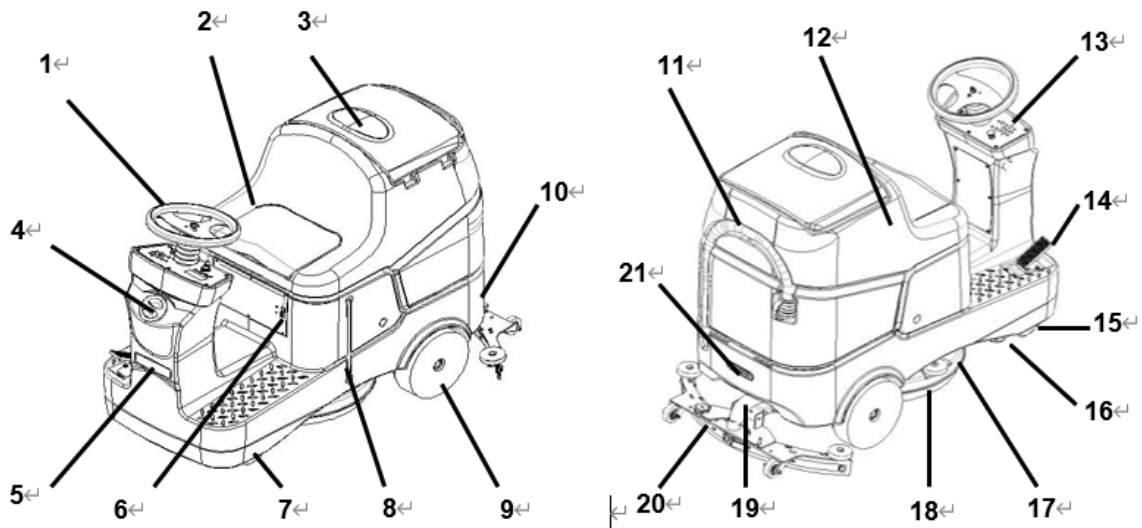

Figure 1
## MACHINE STRUCTURE (as shown in Figure 1)
1. Open the recovery tank cover (3 on figure 1) and check the recovery tank (4 on figure 1) is empty, otherwise, empty it with drain hose (19 on figure 1).
4. Tighten the knob on the squeegee assembly and insert the vacuum hose (17 of figure 1) into the connector of the squeegee assembly.
1. Open the water inlet cover or take out the water inlet pipe and connected to the water tap (11 of figure 1).